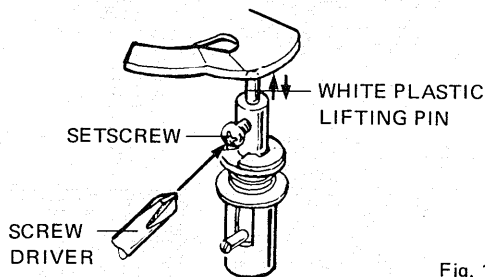

Fig. 10
- Put SELECT lever in any position except MANUAL. Operate ARM LIFTING LEVER slowly a few times. The tonearm must not move up and down. If it moves, see Fig. 10. Loosen setscrew, adjust height of white plastic lifting pin. This pin's height determines the elevator height in DOWN position.